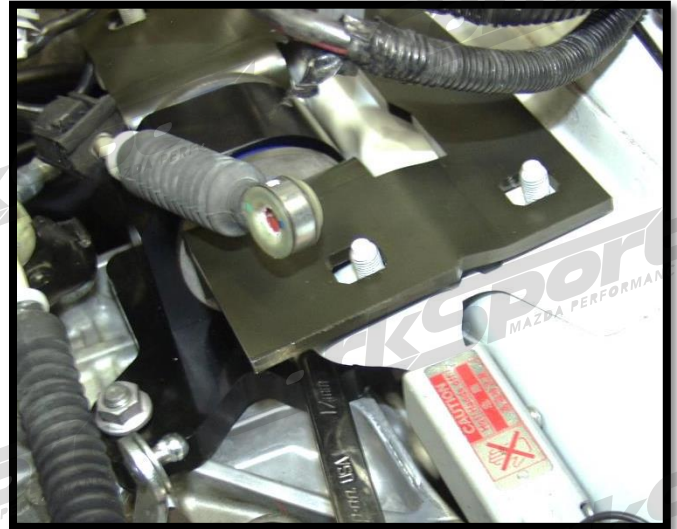

Figure 5b
- b) **Place the Corksport transmission into the vehicle.** Guide the four (4) studs in the frame rail into the holes in the transmission mount bracket and guide the two transmission studs through the lower portion of the mount (Figure 5b).
- c) **Hand thread the three (3) 17mm nuts and bolt fastening the mount to the transmission.** Tighten the nuts and bolt with a 17mm box end wrench (Figure 5b). Torque to 50 ft-lbs.
- b) Place the Corksport transmission mount into the vehicle. Guide the four (4) studs in the frame rail into the holes in the transmission mount bracket and guide the two transmission studs through the lower portion of the mount (Figure 5b).
- c) Hand thread the three (3) 17mm nuts and bolt fastening the mount to the transmission. Tighten the nuts and bolt with a 17mm box end wrench (shown with green circles in Figure 5b mount is removed to easier view). Torque to 50 ft-lbs.